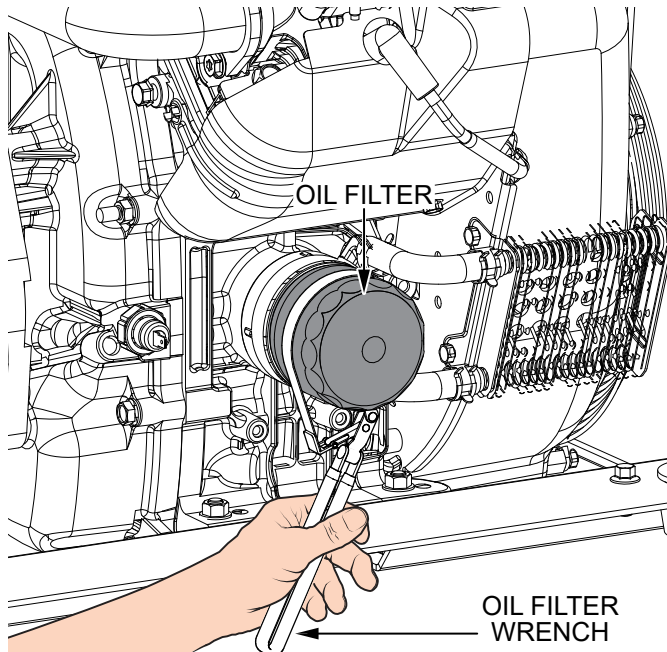

Figure 33. Oil Filter Removal
- Using a **filter wrench** (Figure 33), remove the **engine oil filter**.